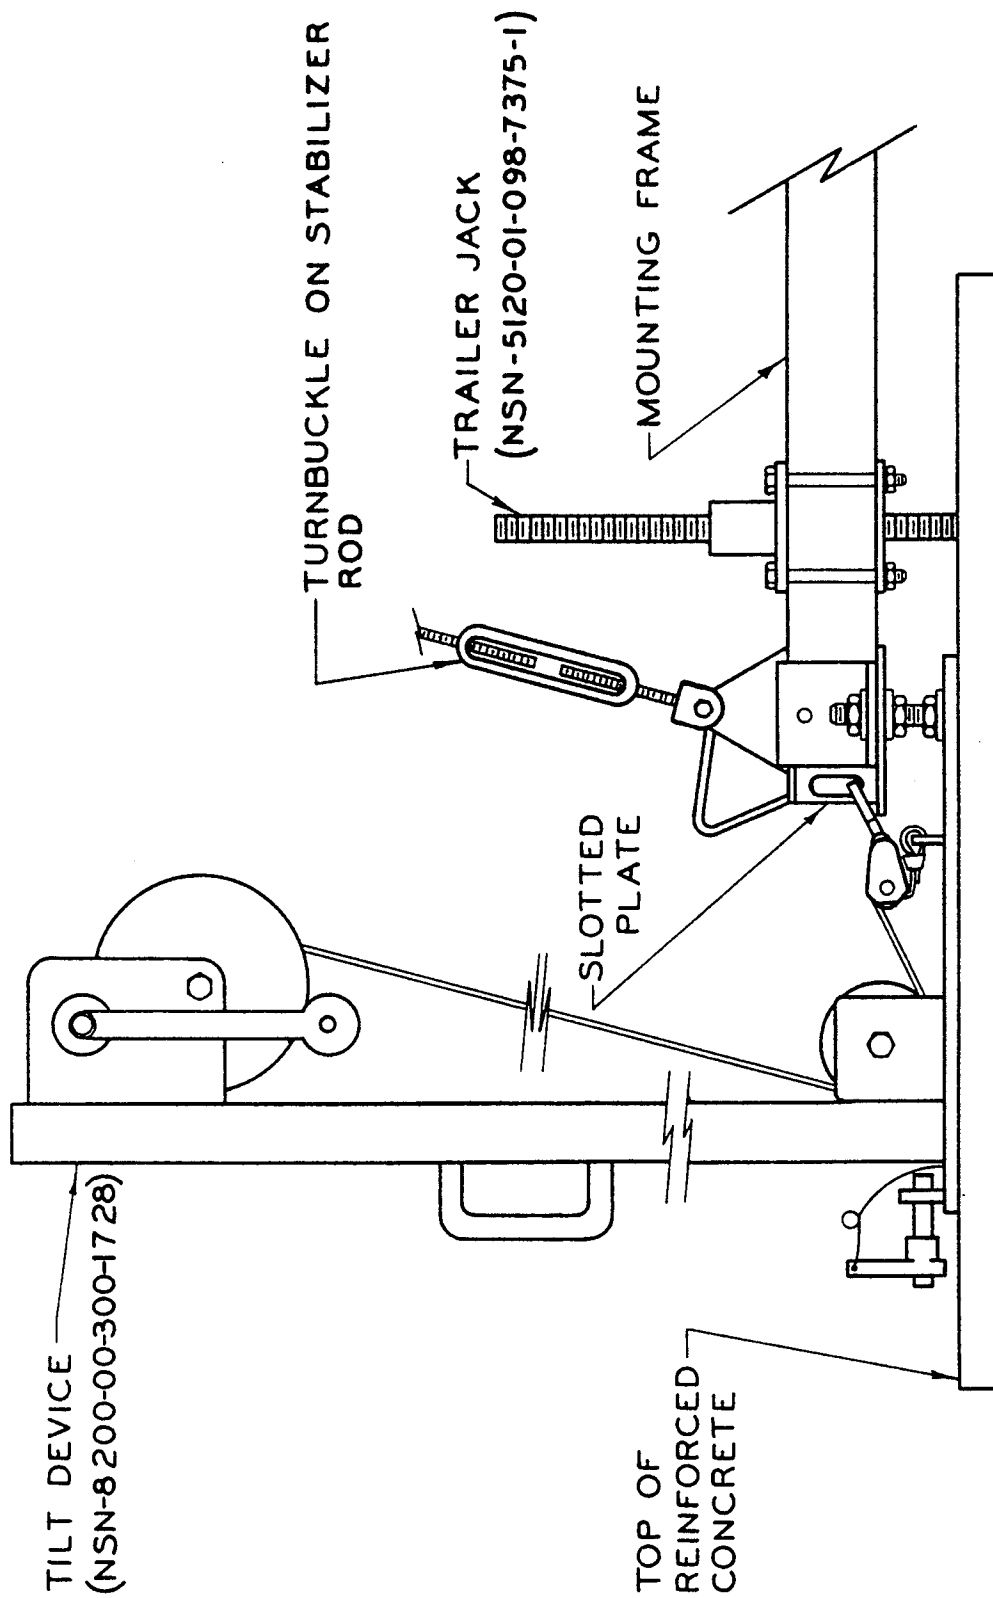

FIG. 3-3
1. Attach tilt device to concrete pier by sliding it under the lower nuts on the two anchor bolts and over the tab provided in the concrete pier. (See Figure 3-3). Tighten the lower nuts on the anchor bolts with the 1-1/8" or 1-1/4" open end wrench. Insert the pin, attached to the tilt device, through the hole in the tab. The tilt device should now be solidly secured to the concrete pier.
2. Attach the cable hook from the tilt device to the slotted plate on the mounting frame assembly. Turn handle of winch, on tilt device, to play out enough cable to reach the slotted plate. After the cable is attached to the slotted plate, take up cable slack with winch. (See Figure 3-3)